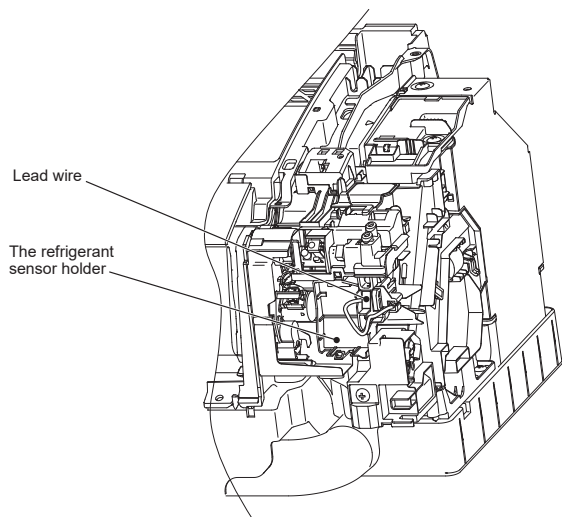

Fig. 1
- 1) Remove the lead wire fixed to the refrigerant sensor holder, then connect it to the refrigerant sensor board. (Fig.1)